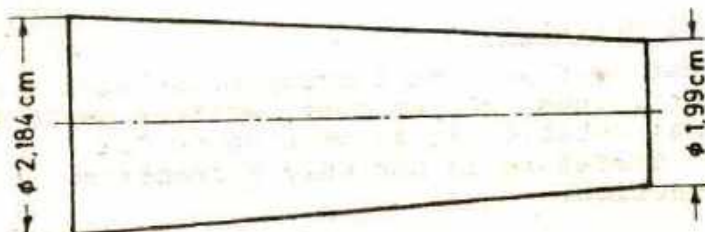

Fig. 1
- c) Find the difference in diameter of the piece of tapered work in Fig. 1.